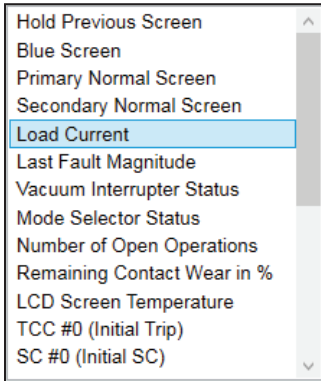

Figure 112. The list of available items for the Display Screen mode.
**Available Screens.** This list displays the selection of screens that can be added to the **Display Screen** sequence. See Appendix B on page 130 for the available options. An item can be selected and added to the **Display Screen** sequence by clicking on it. The clicked item will be highlighted in blue color. See Figure 112. Multiple items can be selected simultaneously.